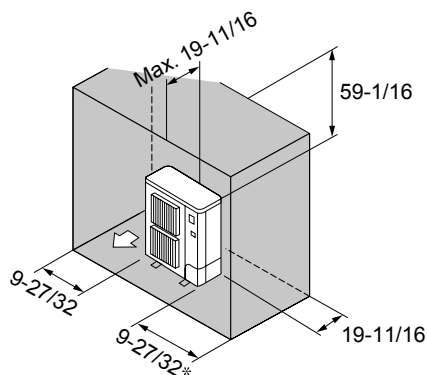

Fig. 2-11
- ⑥ Obstacles at rear, sides, and above only (Fig. 2-11)